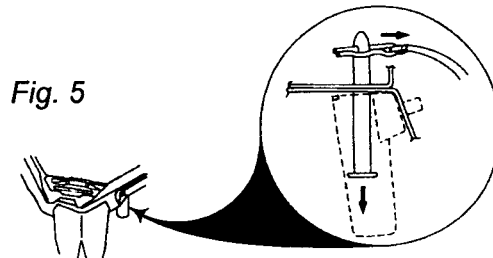

Fig. 5
NOTE: To prevent the two (2) shipping pins from falling on the floor, two (2) plastic holders are attached to the base. (Fig. 5) When the cotter pins are removed, the shipping pins fall into these holders. These pins may be left in the holder cups. (Fig. 5, INSET) They will not interfere with the operation of the washer.